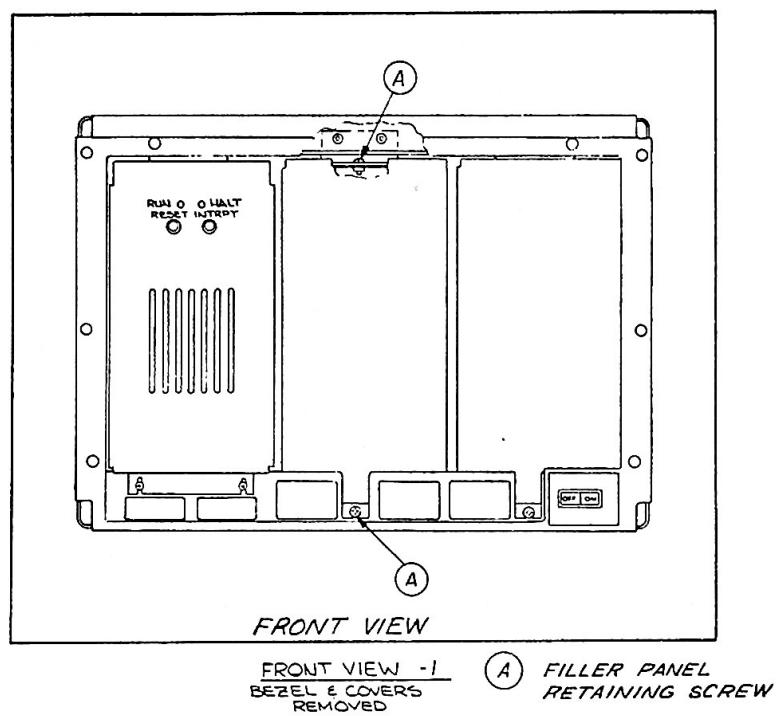

Figure 2-10. Front Filler Panel Installation'
- Remove the front filler panel covering the opening to be used for the installation of the peripheral. Each panel is attached with two screws, one at the bottom and one at the top of the panel, see Figure 2-10.